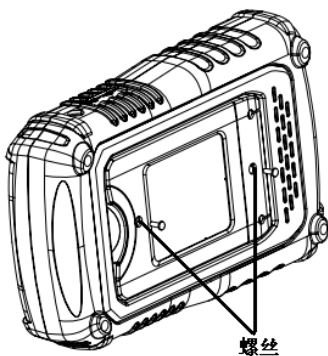

Figure 1
1. Remove the two screws on the battery cover using a screwdriver. As shown in figure 1.